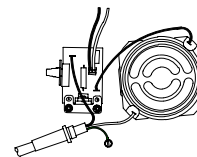

Fig. 2
4. Connect motor harness and WHITE electrical cord leads on control board. (Fig. 2).